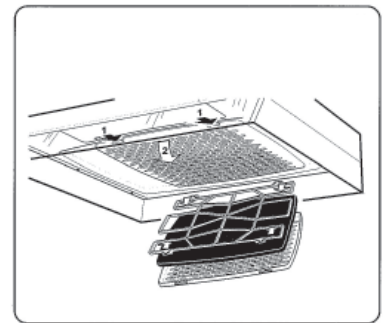

Fig. 8
**(only A/K models):** Wipe the volume hood with a damp cloth and detergent. The filter must be cleaned roughly twice a month with normal use. Loosen the filter cassette by pressing in the snap locks at the front (Fig. 8). Lower the filter and release the filter cloth and filter basket in warm water with detergent. The filter cassette (with the filter) can also be washed in a dishwasher. The volume hood should be cleaned internally a few times a year. Wipe it internally with a damp cloth and detergent. Replace the filter cassette and press it up so that it is fixed in the snap locks.